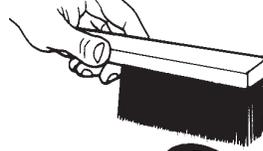

Fig. 9
7. If needed, use a wire bench brush and/or the putty knife to remove the remaining rubber bits still on the wheel. (See Figures 9 and 10.)